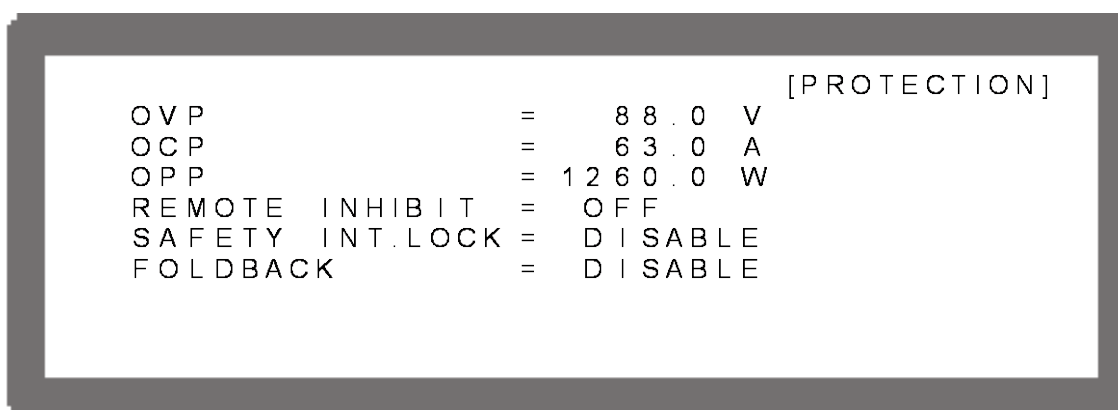

Figure 3-72
1. In Config Setup page, press "5" to show Figure 3-72.
2. The value in Figure 3-72 is the default of 62012P-80-60.